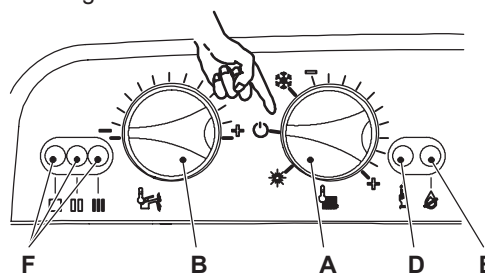

Figure 10.6
- 4 Turn the boiler OFF positioning the function selector A as indicated in Figure 10.6.